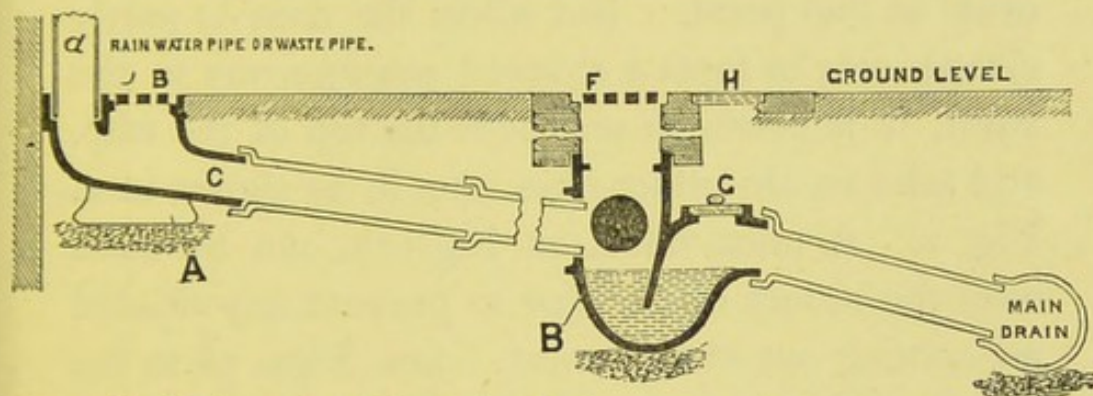

FIG. 118.—Section of a "Ventilating Drain-connector," showing its connection with a R.W.-pipe and Drain.
*lected water with some force* into the drain. Such an arrangement would do away with the questionable value of traps at the bottoms of rain-water-pipes, and, at the same time, it would avoid the evils of long branch drains. The Author has designed a stoneware "Ventilating Drain-connector" for fixing at the bottom of rain-water-pipes and waste-pipes. Fig. 74, p. 184, shows a *perspective view* of it, and Fig. 118 a *section*, at A. This diagram, Fig. 118, explains itself: B shows the "*intercepting-trap*" fixed close to the main drain, and A the "*Drain-connector*" fixed at the foot of a rain-water-pipe. See Plates XIX. and XXI.
- A.—“*Ventilating Drain-connector.*”—See Fig. 74, p. 184, and A, Fig. 118, p. 271.